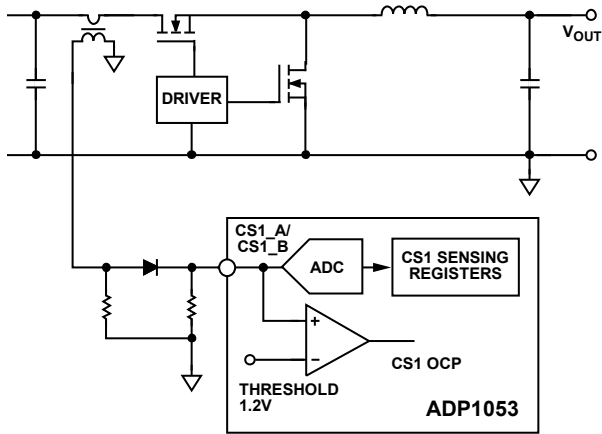
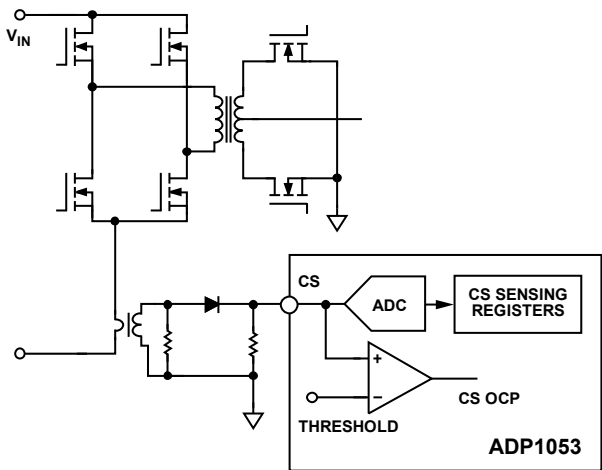

Figure 13. Current Sense 1 (CS1) Operation
Figure 14. Current Sense (CS) Operation
CS1A and CS1B are typically used for the monitoring and protection of Channel A and Channel B, respectively, whereas CS is used for the unregulated Channel C. Generally, the current inputs are sensed through a current transformer (CT). The input signals at the pins are fed into ADCs for current monitoring. The valid input range of these ADCs is from 0 V to 1.4 V. The input signal is also fed into a comparator for fast overcurrent protection (fast OCP). Typical configurations for current sensing are shown in Figure 13 and Figure 14.